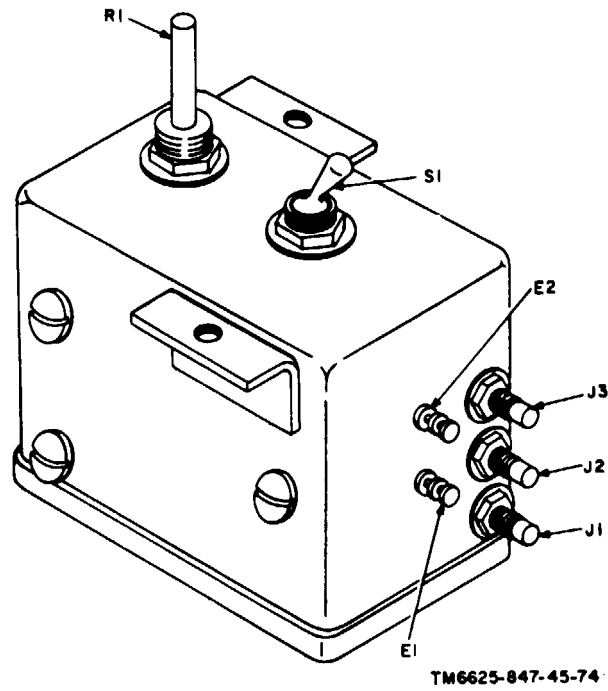

Figure 4-7. Synthesizer test tray A1A3, amplifier modules AR1 through AR5.
- (1) Generator, Signal AN/GRM-50.
- (2) Voltmeter, Electronic AN/URM-145.
- (3) Test set A2 20-volt dc supply.
- (4) Tee Connector UG-274B/U.
- (5) Two Connectors UG-88C/U and two Sealectro 5051 connectors.
- (6) Two Connectors UG-1460/U.
b. Test Connectors and Conditions. Connect the test equipment, as shown in figure 6-21, to amplifier modules AR1 through AR5 (fig. 4-7) to be tested.